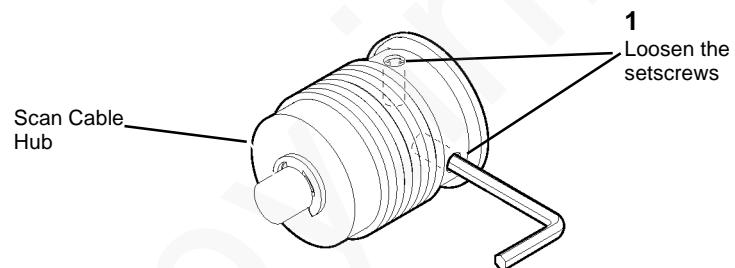

Figure 5 Loosening the Setscrews on the Scan Cable Hub
4. (Figure 5): Loosen the setscrews on the Scan Cable Hub on the side where there was no contact.